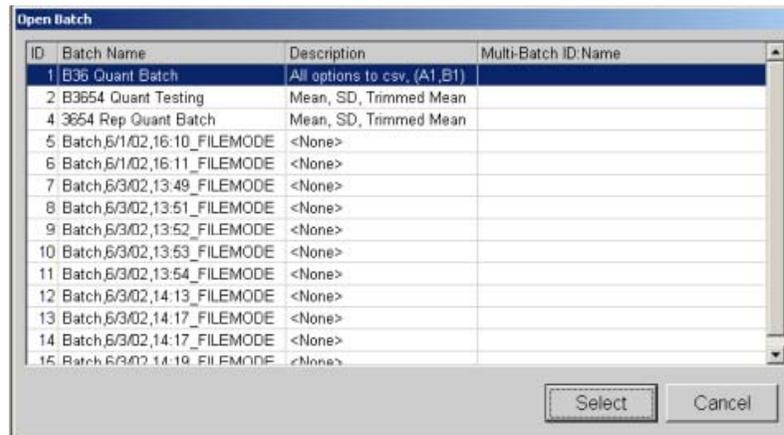

Figure 29 Analyze Open Batch
2. In the **Open Batch** dialog box, select the batch you want to analyze, then click **Select**. The most recent Replay Batch is the last or has the highest ID number. See Figure 29.